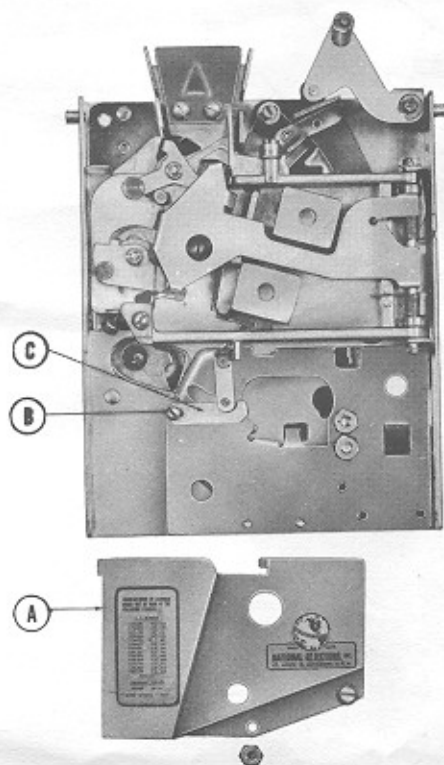

FIG. 5
- D. To reject 5¢ coins, remove cover plate on slug rejector (A-Fig. 5) after first removing slug rejector from Wall Box.
- E. Loosen screw (B-Fig. 5) and insert 5¢ coin stop (C-Fig. 5) which is included in the Wall Box under head of screw (B-Fig. 5) and tighten screw. Replace cover plate (A-Fig. 5) and insert slug rejector into Wall Box.